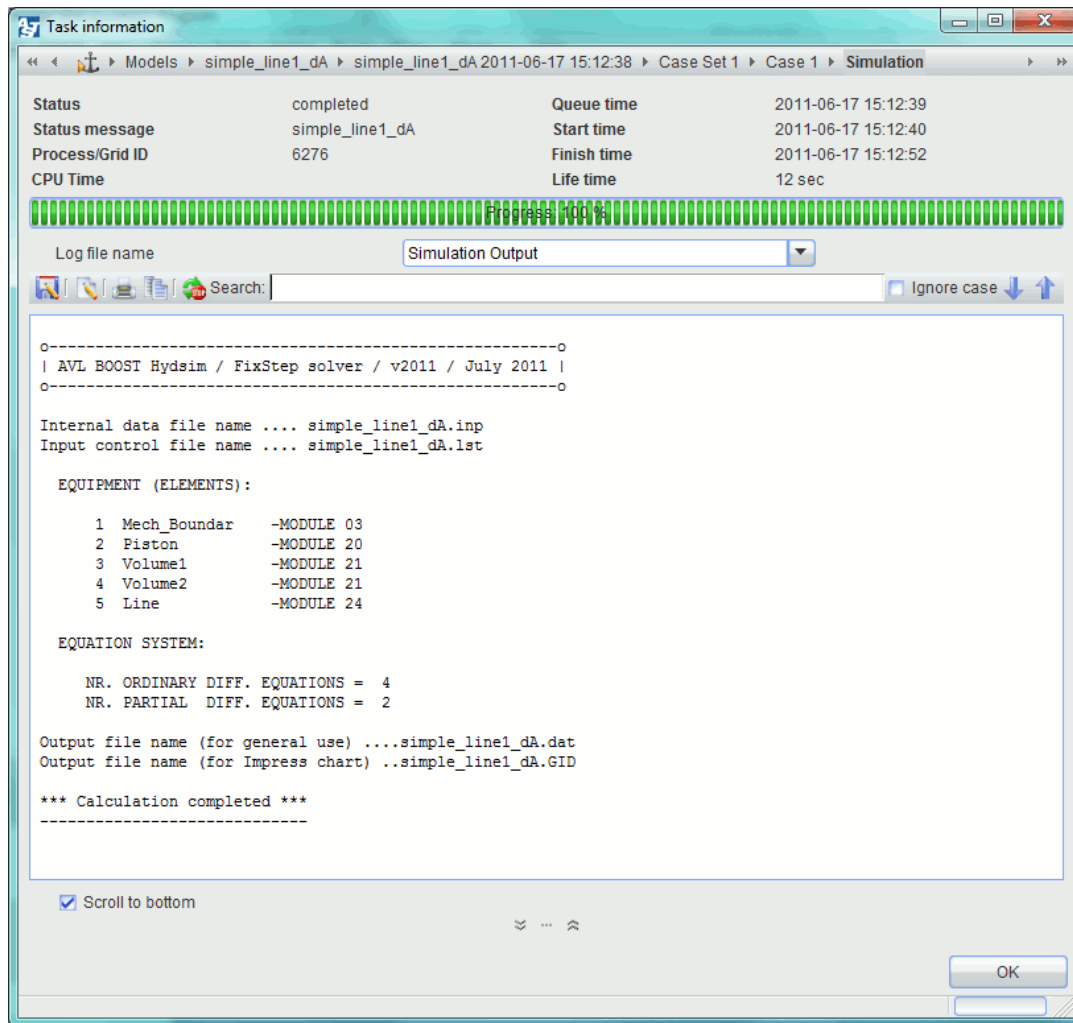

Figure 4-14: Task Information Window
2. Under **Task Information** window the basic run-time information is shown (including warnings and error messages) (*Figure 4-14*).